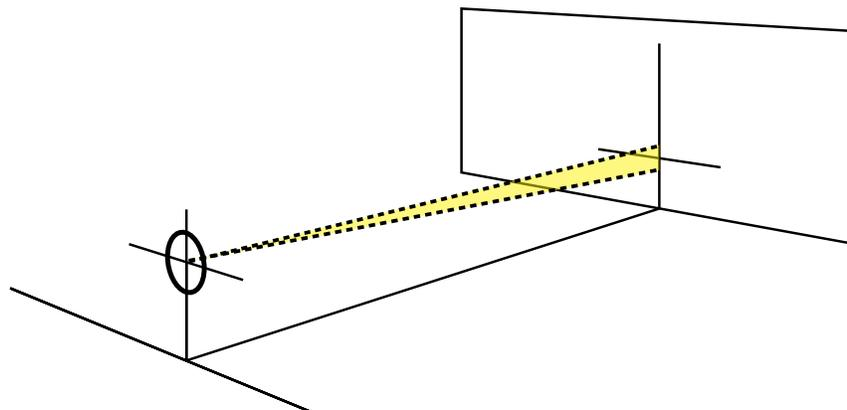

FIG 1
- STEP 24** Refer to FIG 1. Choose a wall that is in minimal light. Park motorcycle on flat surface perpendicular and 25ft away from the wall, measuring from the motorcycle's front axle to the wall. Using masking tape and a level, create a vertical line on the wall. With the motorcycle positioned up right measure the distance from the ground to the center of the high beam bulb. Take that measurement and subtract 2 inches from it. Using that final measurement create a horizontal line over the vertical line on the wall.